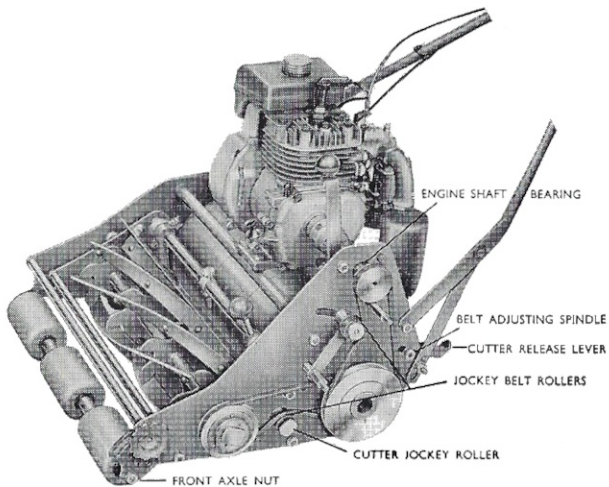
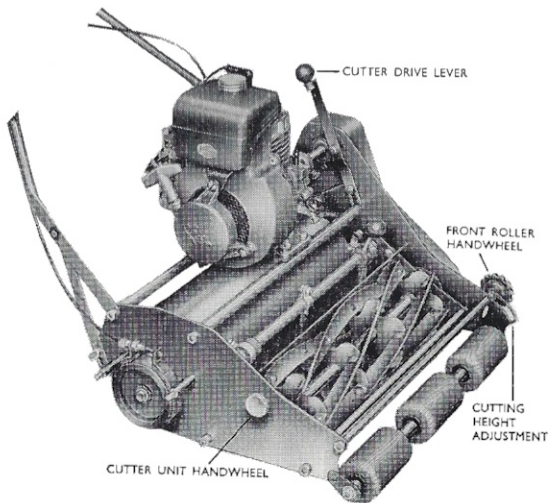
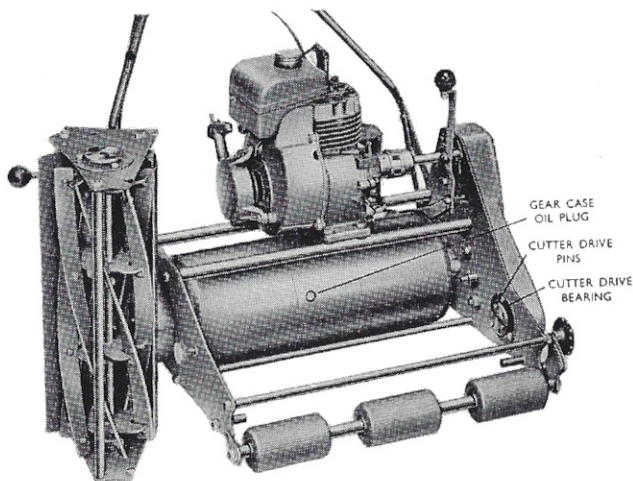

FIG. 1
FIG. 2
FIG. 3
- (3) **Front cutter drive bearing** located in the main side frame by first removing the cutter unit. The oil hole will be seen through the large hole in the flange of the cutter coupling. (See Fig. 3.) (Medium grade oil every two weeks.)
- (4) **Rear axle drums and bearings.** Lubricate by first standing the machine upright with the handlebars against a wall. A grease gun lubricator will then be seen each side in the aluminium bearing housings and grease should be applied with the grease gun.
- (7) **Rear roller assembly.** The centre section gear case chamber of the rear roller is an assembly in two halves and contains the epicyclic speed up gears which run in an oil bath inside the gear case chamber. It is only necessary to change the oil *annually* and replenish with a charge of fresh oil. (IMPORTANT—a quantity not more than a third of a pint.) Access to the oiling point is made by first unscrewing the hexagon brass cover screw seen in the recess of the centre section rear roller. (Ref. fig. 3) Care should be taken to clean away all dirt and grit before removing the hexagon screw.
Adjust the front rollers by positioning in the traverse slot of the adjusting brackets after unscrewing the two handwheels; tighten up securely onto the adjusting brackets after obtaining the setting required. (Do not set too low, particularly for the first cuts of the season or at such times when the lawn may be in a soft condition.) Ref. fig. 2.
When emptying and replacing the grassbox, first disengage the rotary cutter drive for safety, by moving upwards with the foot the cutter release lever (fig. 1.).
With the starting preparation completed and adjustments made, the machine can now be put into motion by first engaging the drive of the cutters by moving the black knobbed lever as far as it will go in the forward position. (See fig. 2.)
First unscrew the handwheel of the retaining pin for about half an inch (see fig. 2). The Cutter Unit can then be moved by sliding along the tie bars as far as it will go until the cutter nut and coupling (ref. fig. 3) is clear of the three pins in the driving coupling. The Unit can then be taken out of the chassis by lifting in a swinging motion from the back. The Cutter Unit is replaced by placing the front slots of the Cutter Unit frames on the two front retaining pins seen projecting from inside of each chassis frame. The Unit should then be carefully lowered in a downward swinging motion until the rear slots of the cutter unit frames rest on the cross tie bar and can then be moved in a lateral direction away from the retaining pin until the three holes of the cutter nut and coupling are in full engagement with the three pins of the driving coupling. Finally screw up the handwheel with the retaining pin engaging the hole in the side frame on the opposite side.
Unscrew and take off the two front handwheels (ref. fig. 2). Then unscrew and take off the one axle nut on the traverse slotted adjuster on the transmission side (ref. fig. 1). The slotted adjuster on the transmission side can then be withdrawn endwise from its engagement with the rear pin and front axle. The axle complete with rollers and one slotted adjuster still attached can be taken endwise clear of the studs away from the chassis.
Adjustment is provided as shown in fig. 1.
The tension of the cutter drive belt is adjusted by means of highering or lowering the spindle on which is mounted the jockey roller. (Fig. 1.)
The rear axle belt is adjusted by the adjusting spindle which engages the bottom horizontal lever. (Fig. 1.)